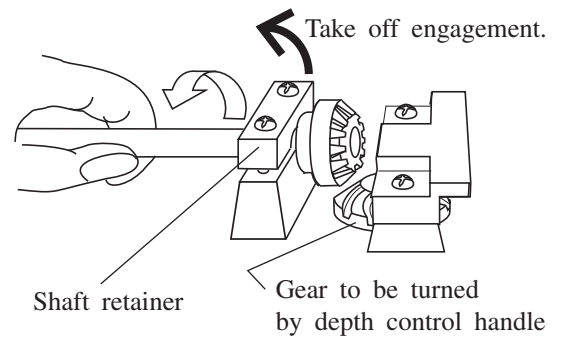

Fig.8B
- (5) Loosen screw on shaft retainer and take off bevel gears' engagement. (See Fig.8B.)
- (6) Adjust the distance between table and round section of drum by turning depth control handle.
Movement by one tooth is equivalent to 0.13mm up and down. (See Fig.8B and Fig.9)